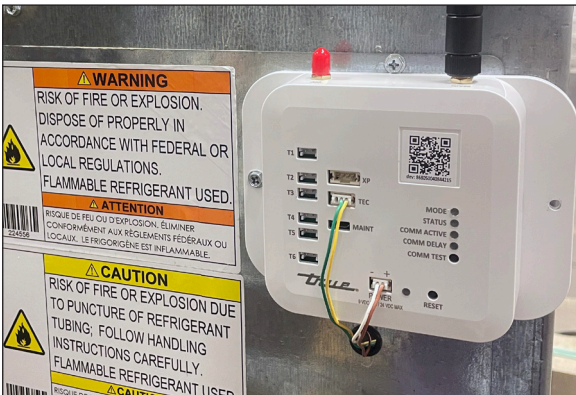

Fig. 2. Wire harness connected to modem. Green/Yellow to TEC; Brown/White to POWER.
2. Pull enough harness through the bushing to connect to the modem ports. See fig. 2.